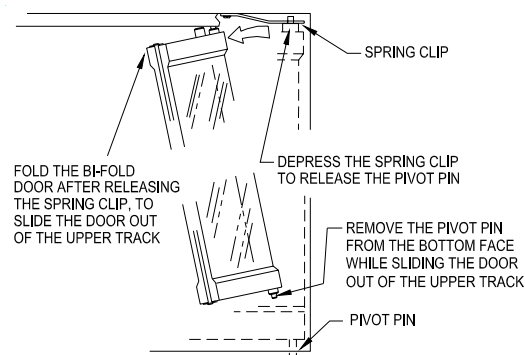

Figure 13 - Installing/Removing Glass Doors
2. With handle facing the center of the firebox opening, insert the lower pivot pin on the door panel into the hole in the bottom outer edge of the fireplace opening. See **Figure 13**.
2. Fully fold the frame assembly and slide the upper edge towards the center of the firebox opening until the guide pins are free of the frame rail (see **Figure 13**).
2. As you push up on the glass against the tension of the spring clips, swing the lower door in toward the face until the bottom pins clear the bottom rail and seat into the locating holes on each end. (see **Figure 13**).